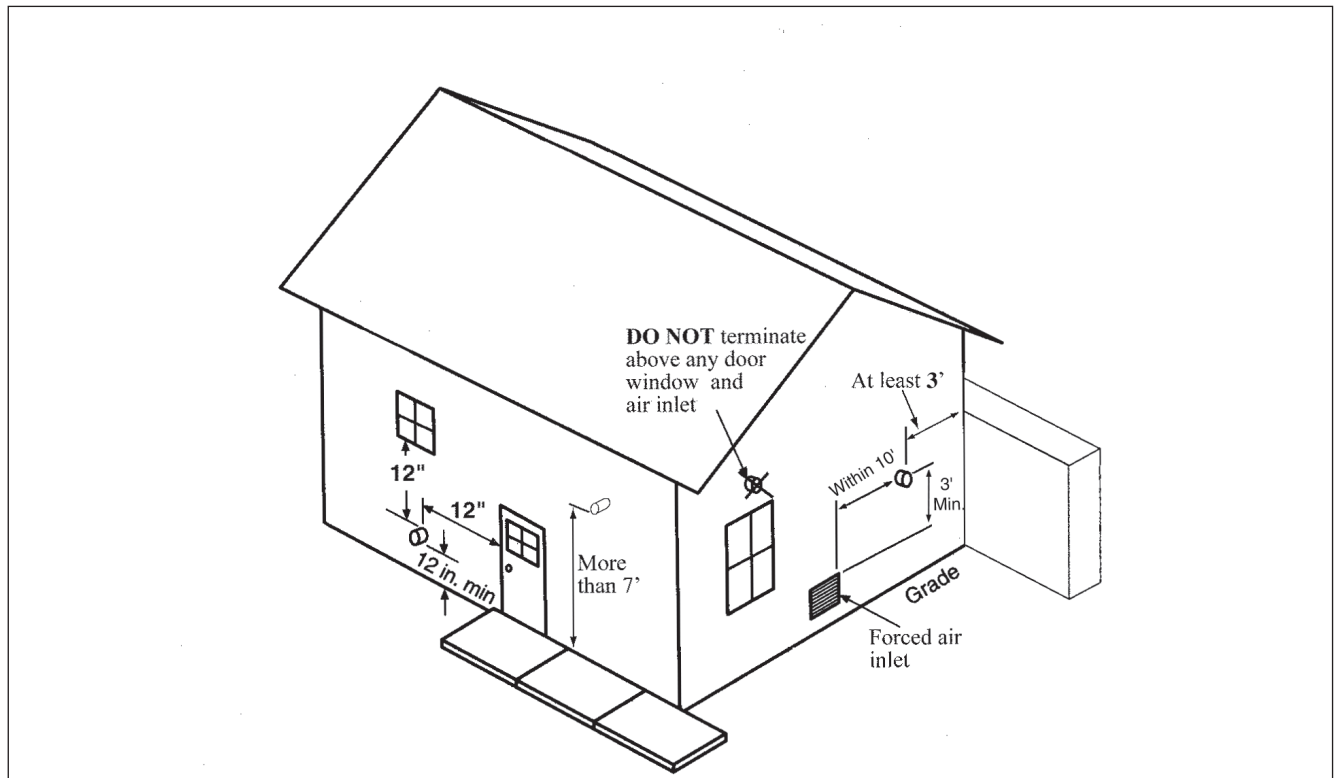

Fig. 2 - Termination Clearances of Direct Vent System
6. The vent termination must also maintain the following clearances, as shown in *Fig. 2 on page 13*:
6. The vent termination must also maintain the following clearances; as shown in **Fig. 2 on page 13**.
5. The vent termination must also maintain the following clearances; as shown in **Fig. 2 on page 13**.